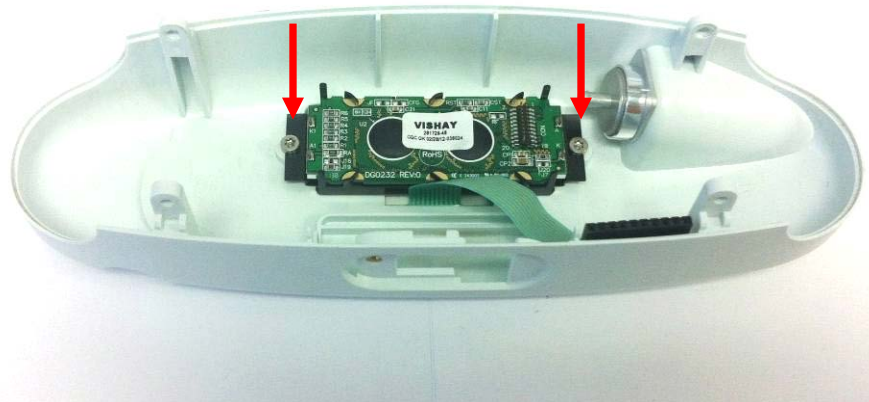

Figure 9: Location of LCD screws
4. Lay the user interface panel upside down with the underside of the LCD facing upward. Remove the two screws securing the LCD to the user interface panel and remove the LCD (Figure 9).
1. Place the new LCD module against the back side of the UIP window on the user interface panel. Orient the LCD module so that the power cable connector on the LCD is on the right side of the user interface panel (as shown in Figure 9).
2. Re-install the two screws securing the LCD to the user interface panel, making sure that the LCD is straight and properly aligned in the UIP window (Figure 9). Tighten screws to 6 in-lbs.